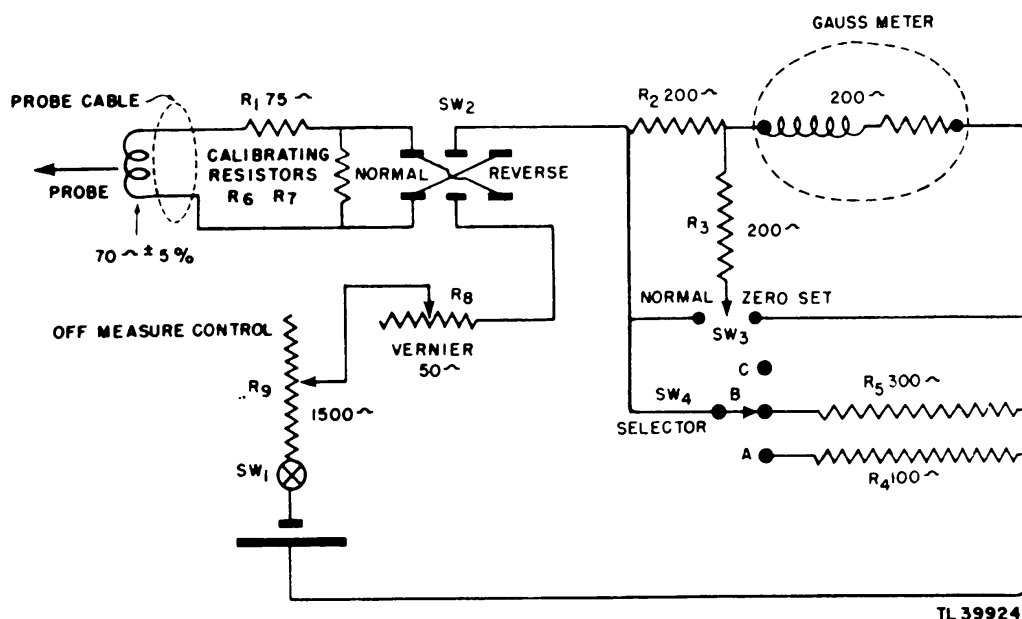

Figure 35. Fluxmeter TS-15A/AP, schematic diagram.
45. FLUXMETER TS-15A/AP (fig. 35).